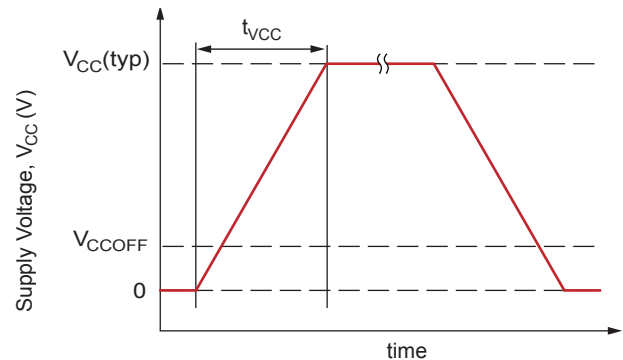

Figure 4. Definition of VCC Ramp Time, tVCC
**VCC Ramp Time.** The time taken for VCC to ramp from 0 V to VCC(typ). 5.0 V (see figure 4).
**VCC Off Level.** For applications in which the VCC pin of the A1388 or A1389 is being power-cycled (for example using a multiplexer to toggle the part on and off), the specification of VCC Off Level, VCCOFF, determines how high a VCC off voltage can be tolerated while still ensuring proper operation and startup of the device (see figure 4).